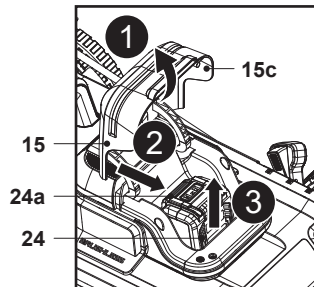

Fig. 9
1. Lift the magnetic lid (15c) and open the battery compartment cover (15) (Fig. 9, step 1).
2. Press down the release button (24a) to unlock the latch of battery pack (24) (Fig. 9, step 2).
3. Slide out the battery pack (24) from the battery compartment (Fig. 9, step 3).
4. Carefully close the battery compartment cover (15).